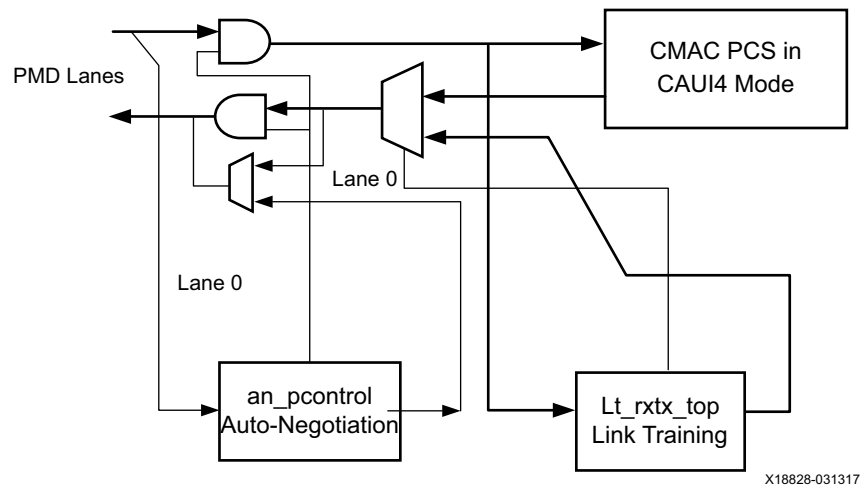

Figure A-1: Core with Auto-Negotiation and Link Training
Auto-negotiation (AN) with Link Training (LT) is an optional feature implemented in the FPGA fabric logic that can be selected at the time of configuration. A block diagram of the core with auto-negotiation and link training is illustrated in Figure A-1.
When Auto-Negotiation and Link Training are complete, the data path is switched to mission mode (the PCS), as shown in Figure A-1.